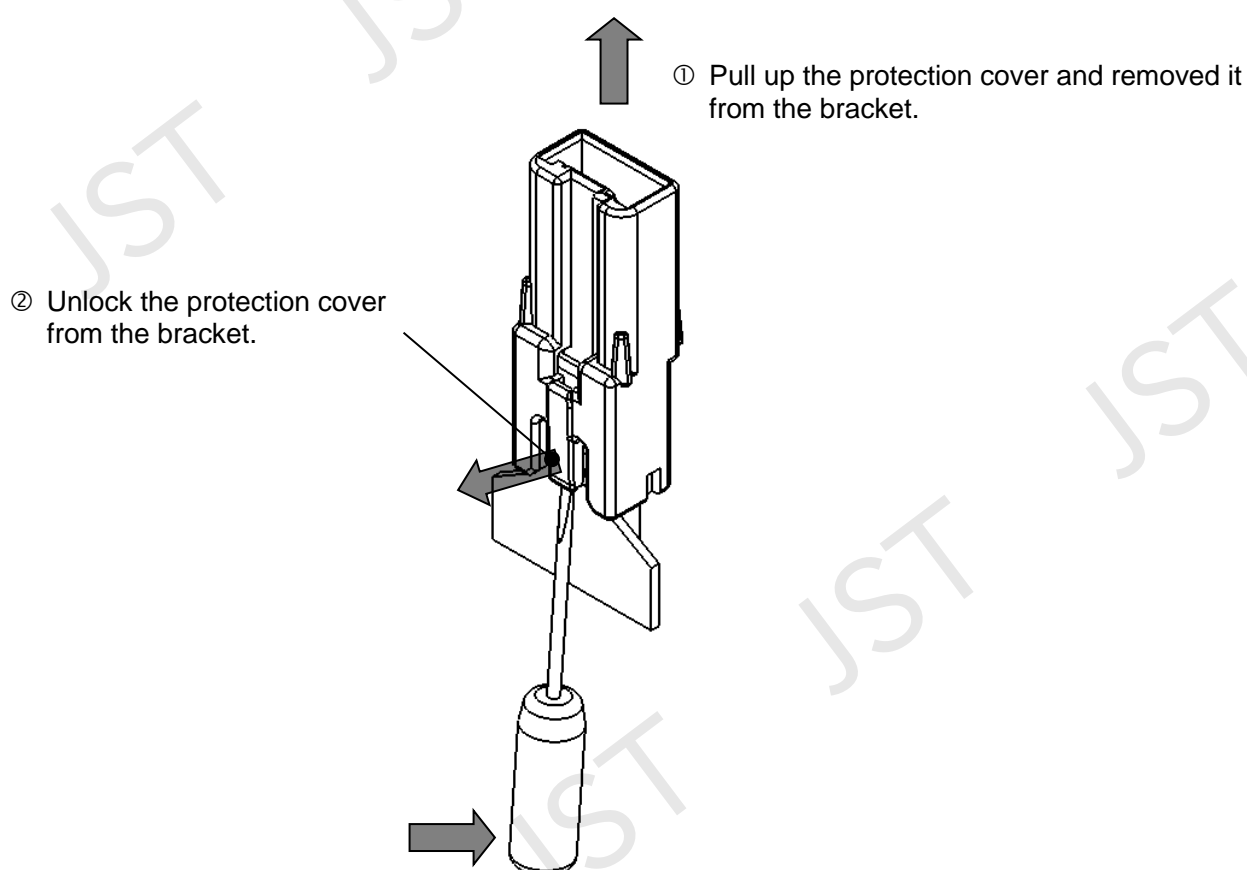

Fig.34
- ④ Insert a flathead screwdriver of approx.1.5mm from the end of the bracket lock and lift the bracket by applying a load in the unlocking direction shown by the arrow of Fig.34.
- ① With lifting the bracket lock, pull up the male assembly in a straight and remove it from the bracket.